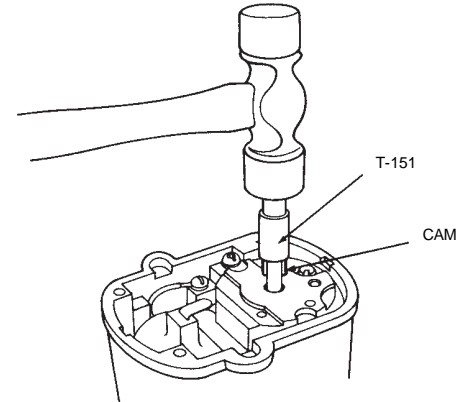

Figure 7.9
- B. Drive the cam until it bottoms in the rotor cam slot. (See Figure 7.9.)